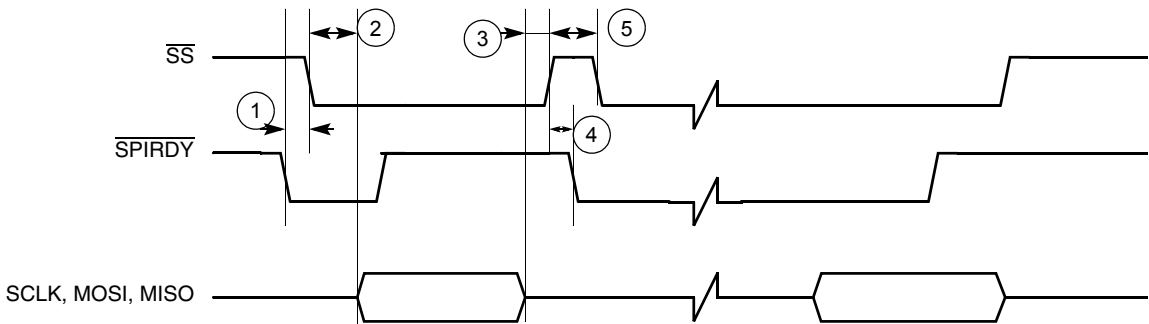
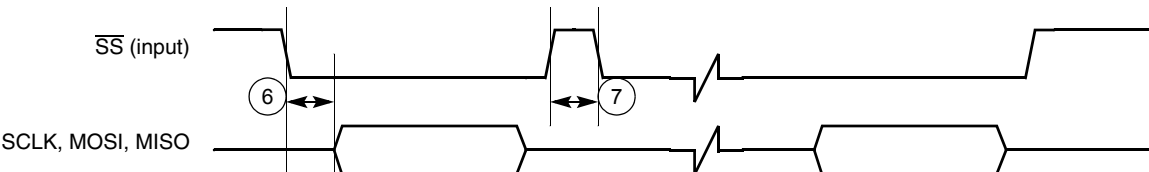

Figure 14. Master CSPI Timing Diagram Using  $\overline{\text{SPI\_RDY}}$  Edge Trigger
Figure 18. Slave CSPI Timing Diagram FIFO Advanced by  $\overline{\text{SS}}$  Rising Edge
**Table 18. Timing Parameters for Figure 14 through Figure 18**